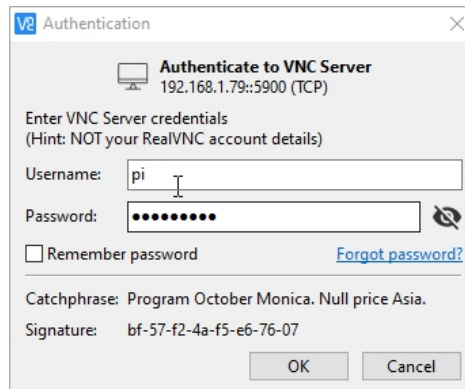

Figure 12: VNC Viewer IP address enter
4. Now enter the Username and password on appeared window shown in Figure 12 below. Default User name is '**PI**' and password is '**raspberry**' click 'OK'.